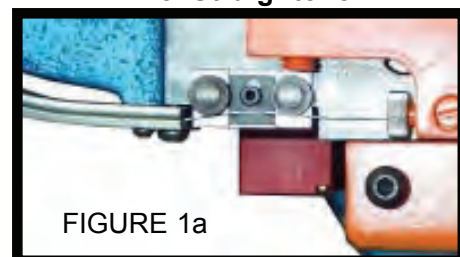
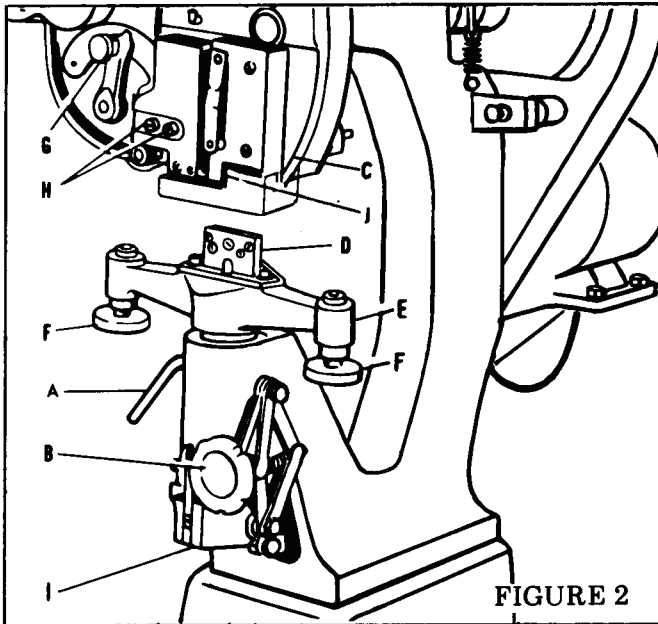

FIGURE 1a
FIGURE 2
Adjust Wire Straightener: To make sure that the wire will enter the mandrel (Index J, figure 2) properly, it may be necessary to adjust the wire straightener (Figure 1a). See Adjustment section, Page 16.
6. To increase or decrease the leg length of the stitches, loosen the screw of the wire feed index lever (Index G, figure 2) and the two screws of the cutter block (Index H, figure 2). Move the wire feed index lever to the right (or next higher number) for more leg length — to the left (or next lower number) for less leg length. Tighten screws of index lever and cutter block. Repeat step 5.